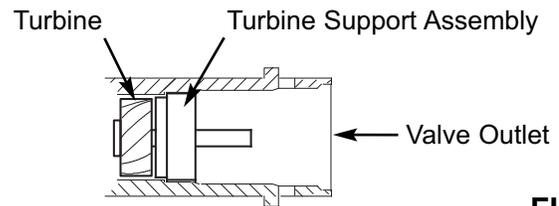

FIG. 8
- Make sure the turbine and support are firmly in place in the valve outlet, as shown in Figure 8. Blow into the valve port and observe the turbine for free rotation.
CAUTION: The house cold water pipe (metal only) is often used as a ground for the house electrical system. The 3-valve bypass type of installation, shown in Figure 8, will maintain ground continuity. If you use a plastic bypass valve at the unit, continuity is broken. To restore the ground, do the following: